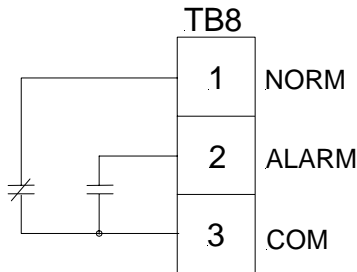

Figure 3-13
- For terminal connection details of the Alarm Status output contact (shown in the non-alarm mode) see Figure 3-13 on Page 3-13.